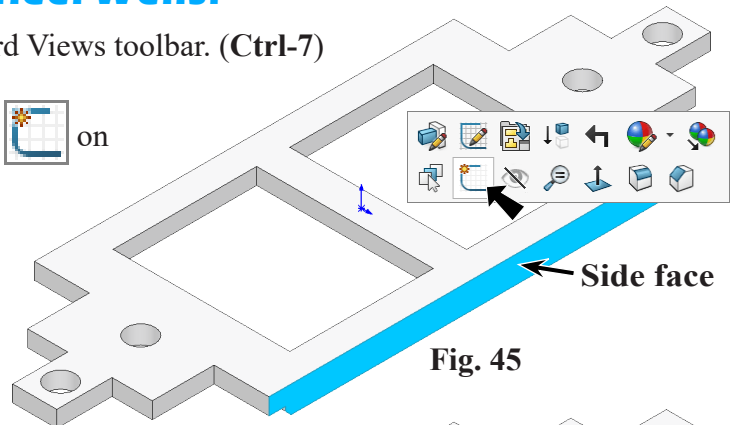

Fig. 45
Step 2. Click the **side face** and click **Sketch**  on the context toolbar, **Fig. 45**.
Step 3. Click **Circle**  (S) on the Sketch toolbar.